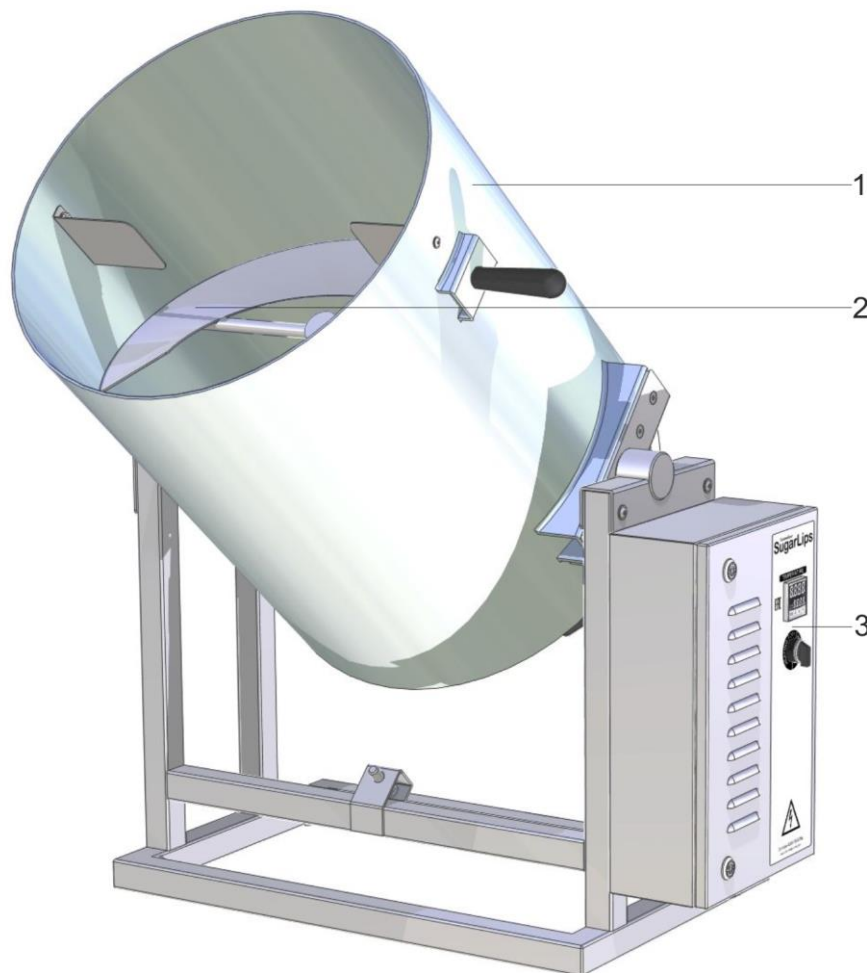

Fig.1 SugarLips CP-20
SugarLips CP-20 general appearance is shown in Fig.1. The machine has a kettle (1), where caramel is being cooked and popcorn is being coated with caramel. A mixer (2) installed in the kettle allows proper cooking of caramel and popcorn coating with caramel. The machine is controlled via control panel (3).